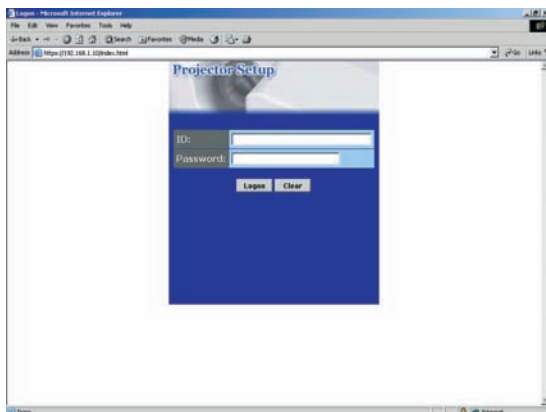

Fig. 2.3.4 “Logon Menu”
2) After enter your ID and password, if Fig. 2.3.4 appears, it succeeds.